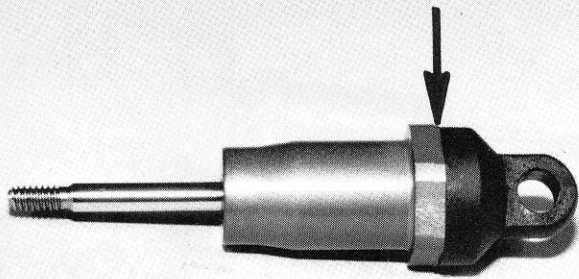

**Fig. 123**
□ **Fig. 123** Locate the four #6469 black O-rings in the shock accessory bag (inside the main shock bag). Install one black O-ring over the threads of the shock body, and seat it flush in the pocket at the bottom of the threads.